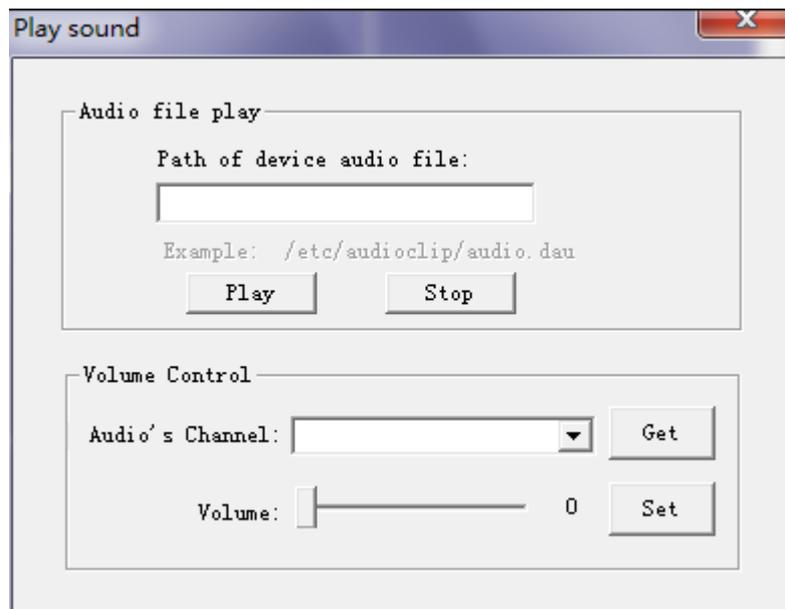

Figure 2- 11
Step 2. Click Control&Search. See Figure 2- 11.